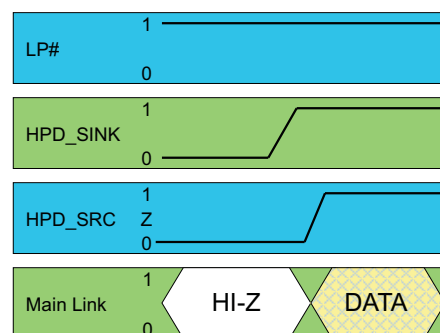
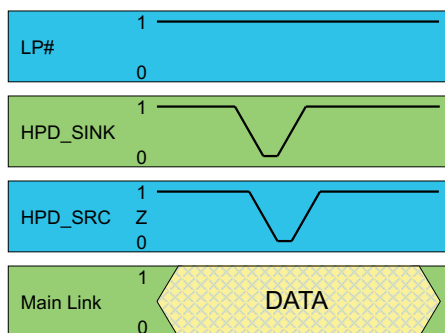
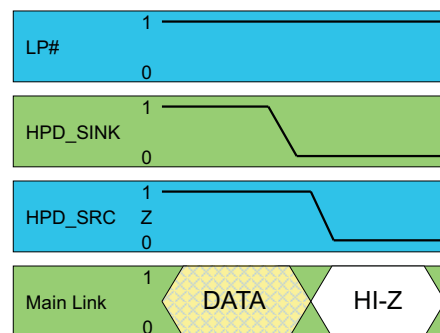

Figure 17.
Figure 18.
Figure 19.
- **Case two:** In this case HPD_SINK is initially LOW and the low power pin is HIGH. In this initial state the device is in a standby mode. Once the HPD input goes to a HIGH state the device will come out of the standby mode and will enter active mode enabling the main link. The HPD output to the source will follow the logic state of the input HPD. See Figure 17, where $HPD_INV = L$.
- In this case the HPD_SINK input is initially HIGH. The HPD_SRC output logic state will follow the state of the HPD_SINK input (when HPD_INV = L). If the HPD_SINK input pulses LOW, as may be the case if the Sink device is requesting an interrupt, the HPD_SRC output to the source will also pulse Low for the same duration of time with a slight delay (see Figure 18). The delay of this signal through the SN75DP120 is specified as $t_{PD(HPD)}$. If the duration of the LOW pulse exceeds $t_{T(HPD)}$ the device will assume that an unplug event has occurred and enter the low power state (see Figure 19). Once the HPD_SINK input goes high again the device will return to the active state as indicated in Figure 17.